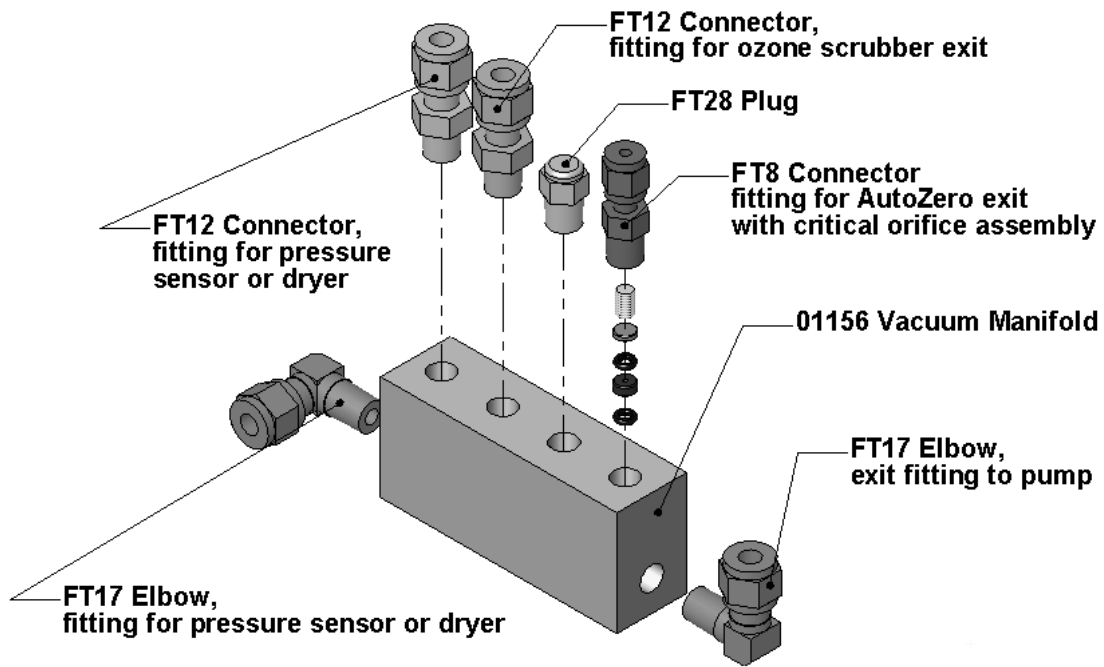
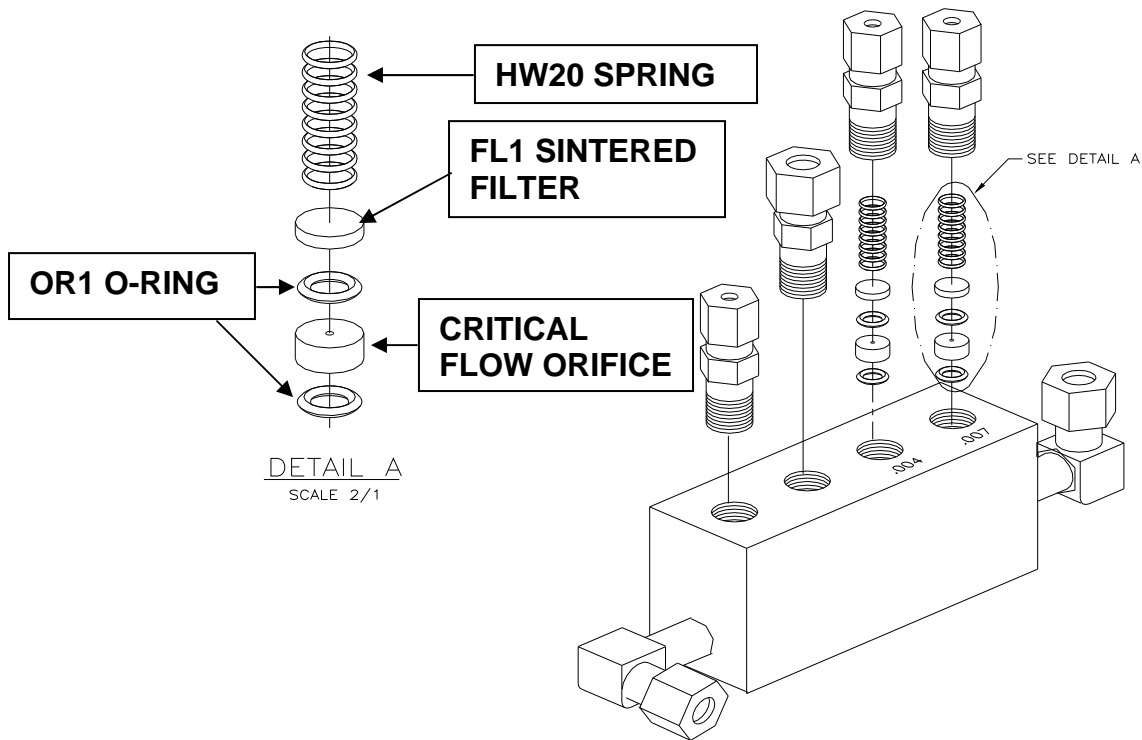

FIGURE 1. EXHAUST VACUUM MANIFOLD.
FIGURE 2. EXHAUST VACUUM MANIFOLD SHOWING THE ADDITIONAL 0.004" FLOW ORIFICE ASSEMBLY.
2. Refer to **figure 1** and remove fitting cap (FT 28 Plug) from the exhaust/vacuum manifold. Install the 0.004" flow orifice regulator assembly parts in the port where the manifold cap "FT 28" was removed, refer to **figure 2** for flow orifice regulator assembly details.